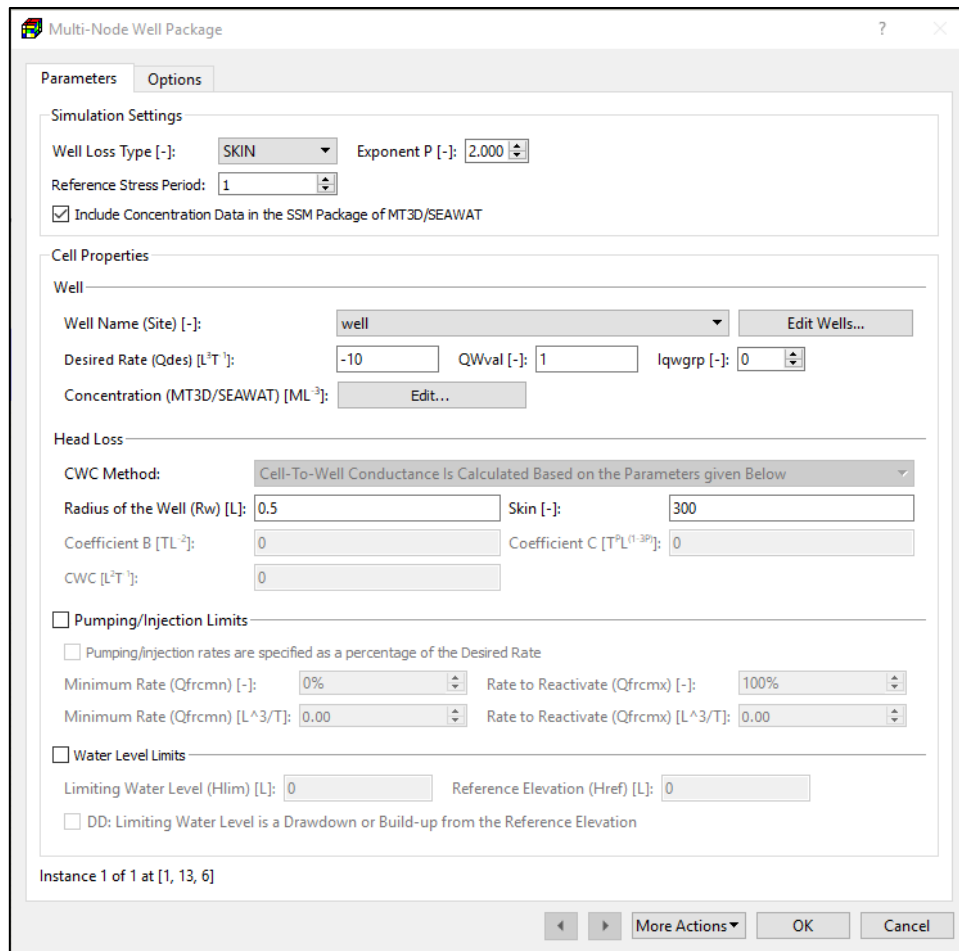

Figure 60. The Multi-Node Well Package dialog box
1. **Cell-by-cell input method:** Figure 60 shows the dialog box for specifying cell properties.